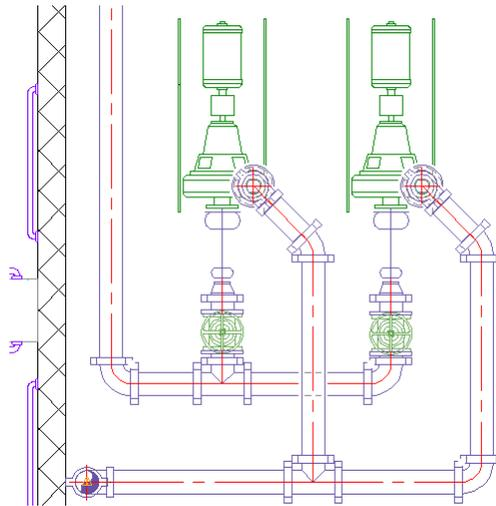

Figure 6.48
- Pick on the 6" pipe leading to the left pump's suction end and repeat the process to add another valve (see Figure 6.48).